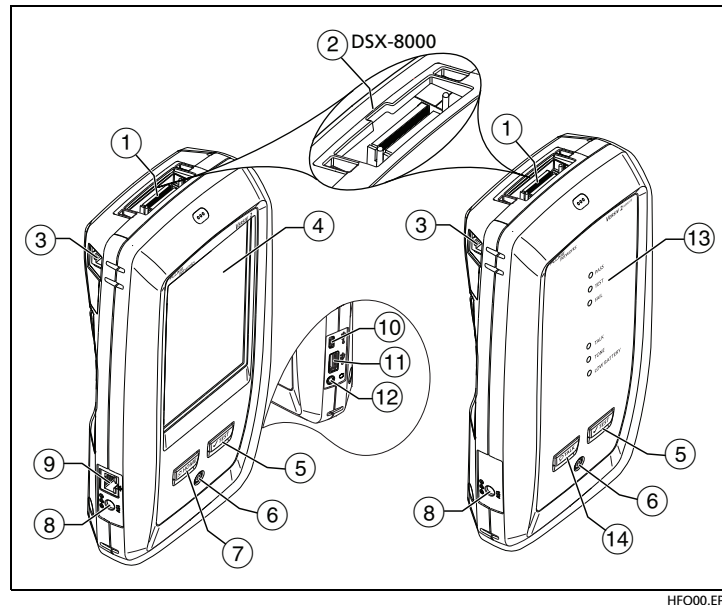

Figure 1. Connectors, Keys, and LEDs (Versiv 2 shown)
Charge the battery if necessary. Connect the AC adapter to AC power and to the adapter connector (⑧) shown in Figure 1. You can use the tester while the battery charges.